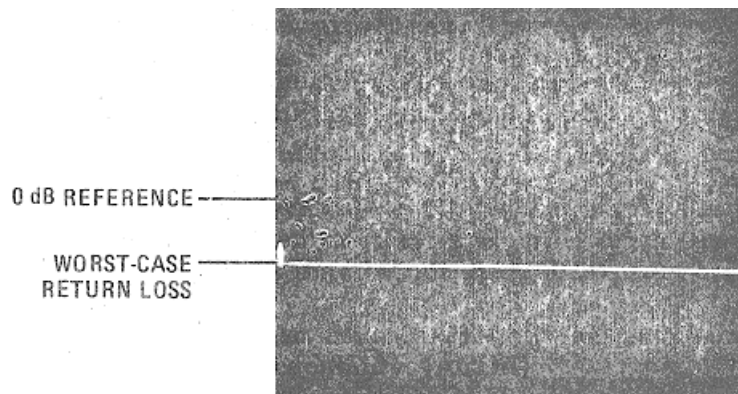

Figure 20. INCIDENT Port Return Loss (0.5 to 2 MHz)
- (1) Set 8505A Frequency Control RANGE MHz switch to .5 to 13. Adjust FREQUENCY START control to 00.50 and FREQUENCY STOP control to 02.00.
- (2) Repeat steps k through l except that the indication should be >-23 dB below the zero dB reference level for the frequency range .5 to 2 MHz (Figure 20).